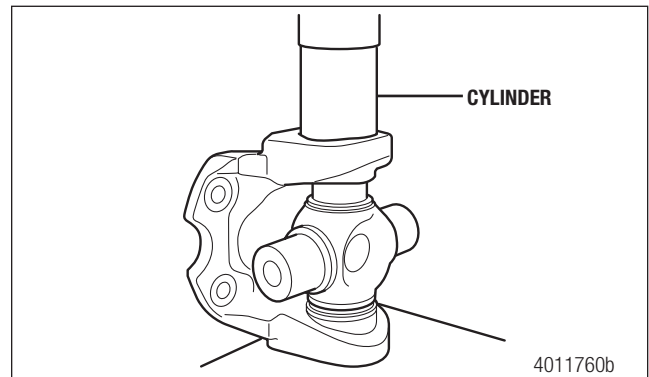

Figure 5.86
6. Install a cylinder and continue pressing down until the bushing is seated low enough to install the snap ring. Figure 5.86.